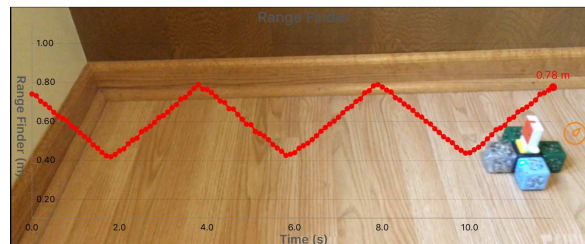

Figure 1
1. Make a DRIVE *Cubelet* move back-and-forth with a Voyager Range Finder graph that is triangular, as shown in Figure 1. (Easy)